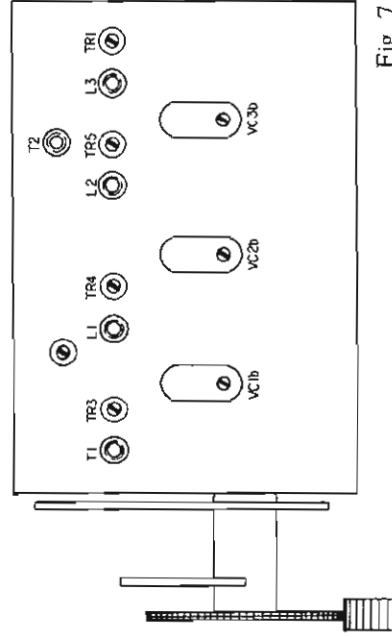
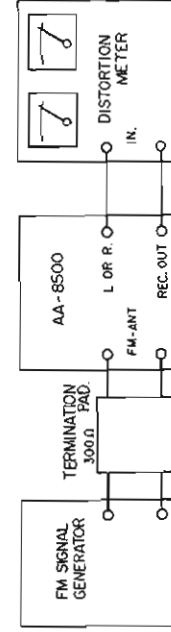

Fig. 7
Fig. 9
- Fig. 7) so that the Distortion meter level indicates maximum.
- c) Set the Signal Generator frequency to 108.5 MHz. Set the tuning dial of AA-8500 to the right end. Adjust C_0 (see Fig. 7) on the front end so that the Distortion meter level indicates maximum.
(1) Instrument Connections
Use the same instruments as used in item 3-3 (Fig. 9), and connect them in the same way.
(2) Adjustments
- c) Adjust the cores of L_1 and T_1 (see Fig. 7) on front end of AA-8500 so that the Distortion meter level indicates maximum and the distortion factor is minimum.
- c) Connect the Distortion Meter to "TAPE-REC" terminal on rear panel (See Fig. 9).
- #### (2) Adjustments
- a) Use the same instruments as used in item 3-3 and connect them in the same way. (Fig. 9) Set the signal generator frequency to 98 MHz, and the output to 60 dB (1 mV). Turn the tuning dial of AA-8500 to receive this signal.